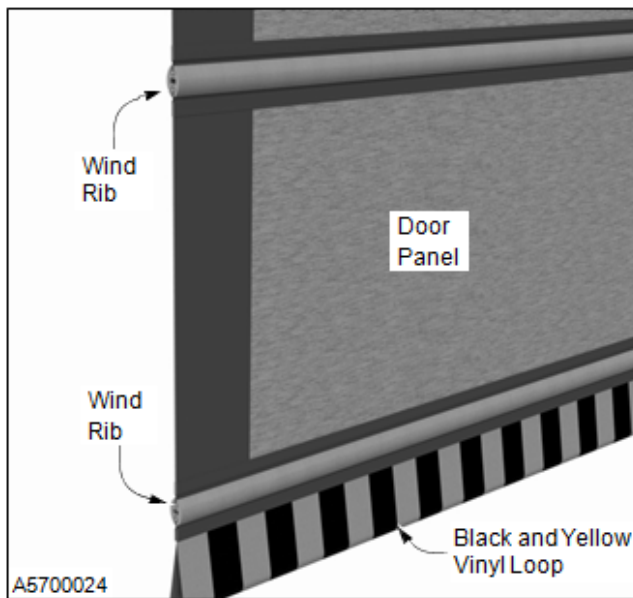

Figure 49
4. Slide either the top or bottom wind rib out of the worn door panel. (See Figure 49)